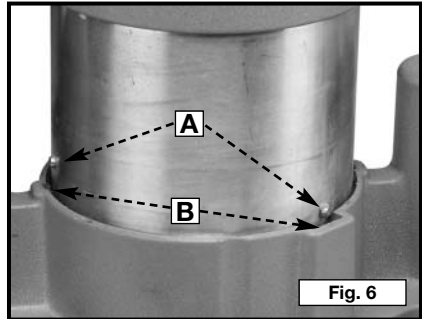

Fig. 6
2. Insert motor unit into the base with switch positioned at front of left handle, and align the four pins (A) Fig. 6 in the motor case with the slots (B) Fig. 6 in the base.